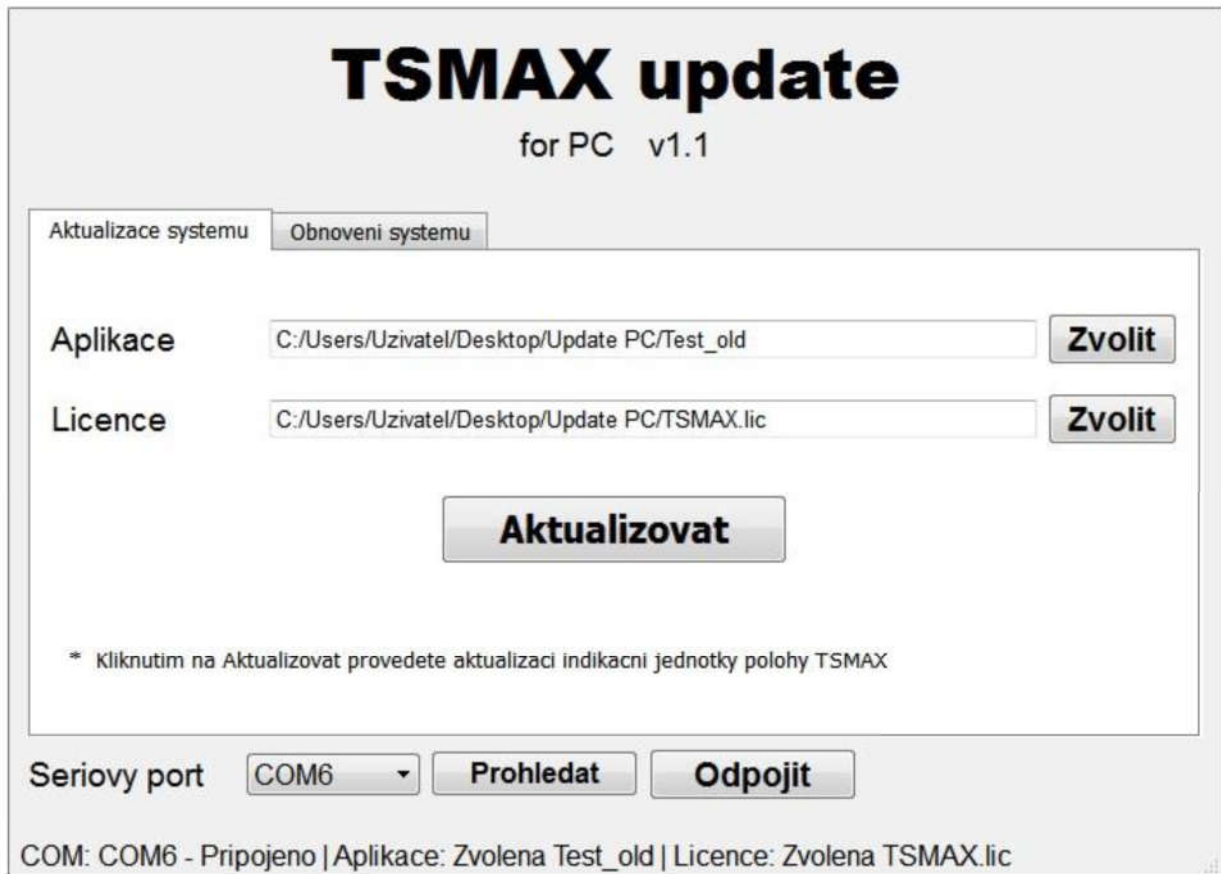

Fig. 53: System update – prepared for update
- ⑩ At first press button „Prohledat“ (search) to search all series ports used in PC. Then select the specific series port where the readout unit is connected.
- ⑩ Now it is necessary to select the application file for the update and the license file using buttons „Zvolit“ (select).
- ⑩ Finally press button „Pripojit“ (connect).
- ⑩ If everything is ok, the button for „Aktualizovat“ (update) is available (see fig. 53: System update – prepared for update).